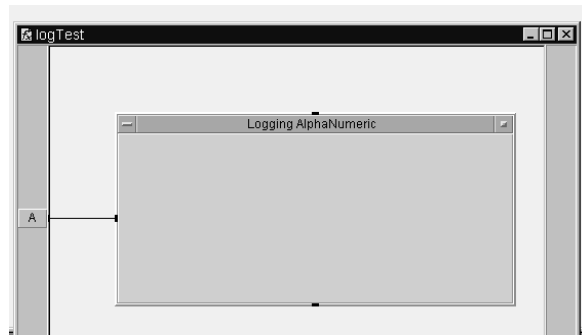

Figure 17.2. Detail view of the UserFunction logTest before running
15. Select Menu Bar => Display => Logging AlphaNumeric; place it in the logTest UserFunction; deselect Clear at Activate; size it; connect it to the input pin as shown in Figure 17.2.